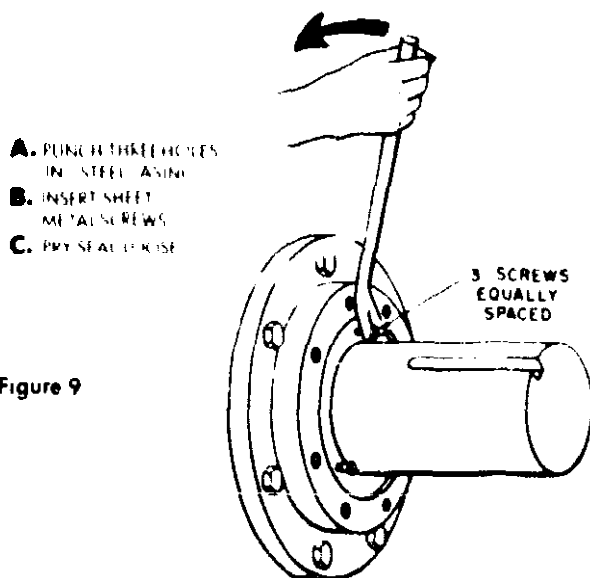

Figure 9
- B. Punch three equally spaced holes in the steel casing of the seal. Insert three sheet metal screws so the heads remain outside the seal cage. Pry out seal, Figure 9.